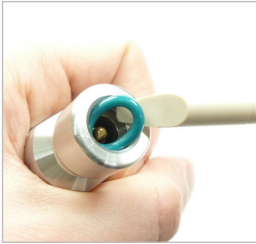

Figure 1
- ▶ Insert the WEH® assembly tool part no. E34-82427 under the front seal (Pos. 5) and remove the front seal from the recess (*Figure 1*).